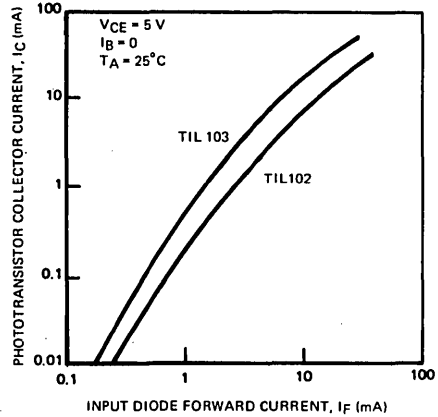

FIGURE 3. Typical Input/Output Current Relationship for the TIL102/TIL103
3. **Current gain.** The current gain (output current/input current) of an opto-coupler is largely determined by the efficiency of the n-p-n sensor and by the type of transmission medium used. For the TIL103, the current gain is greater than unity, which in many cases eliminates the need for current amplifiers in the output. However, both the TIL102/TIL103 and TIL107/TIL108 have output current levels that are compatible with inputs of digital integrated circuits such as 54/74 TTL and DTL. Figures 3 and 4 show typical input-to-output current relationships.